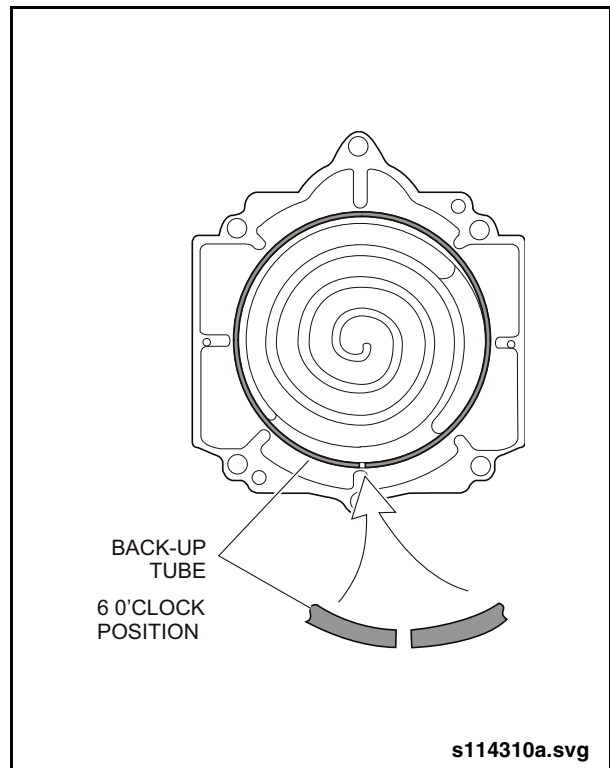

Fig. 8: Backup Tube Installation
8. Insert new backup tube in fixed scroll set. Orient split in tube to the 6 o'clock position. See “Fig. 8: Backup Tube Installation” on page 7.